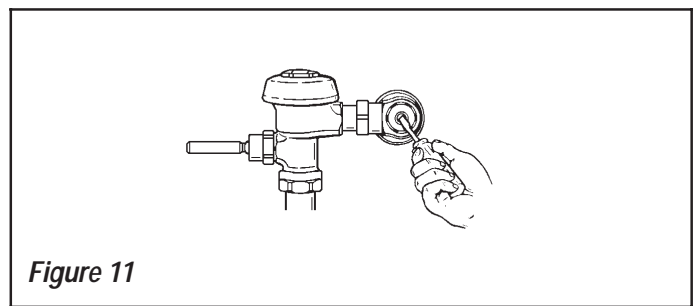

Figure 11
Step 10 — Adjust Control Stop (Figure 11)